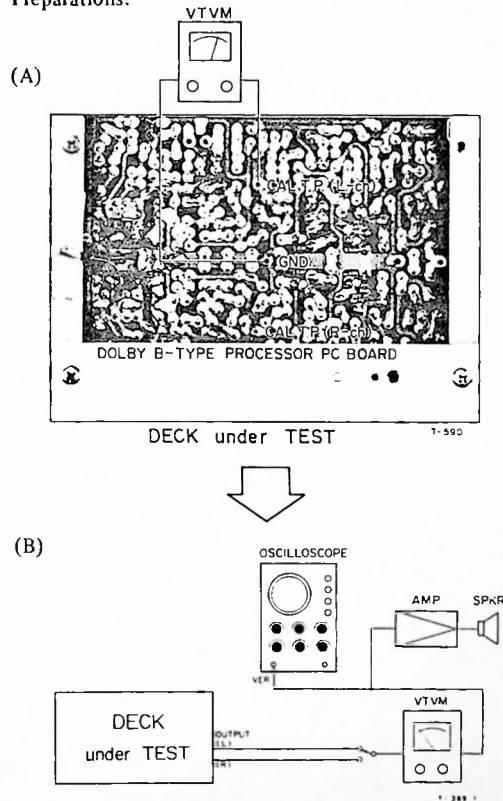

Fig. 6-6 Connection
2. Adjust VR102/202 for 580 mV (-2.5 dB) on VTVM connected to the CAL test points, as shown in (A) of Fig. 6-6.
3. Change the VTVM connection to the OUTPUT jacks as shown in (B) of Diagram.
Connection: See Fig. 6-6 (B) on page 22.